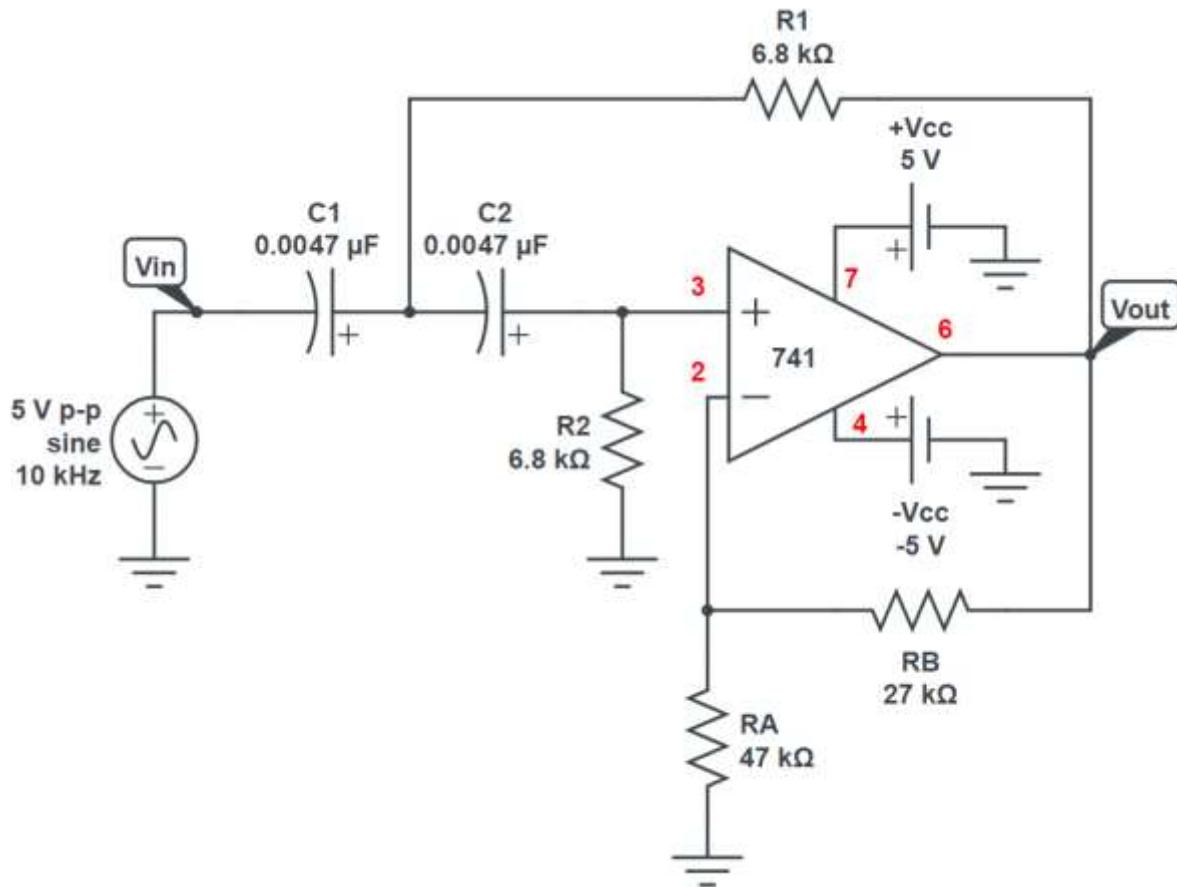

FIGURE 16-1: Schematic Diagram of Circuit
Please use PSpice to simulate the circuit in Figure 16-1. Include both input and output waveforms in the prelab report. Calculate the cutoff frequency. Also, calculate the expected values of Table 16-1.
1. Wire the circuit shown in the schematic diagram in Figure 16-1.